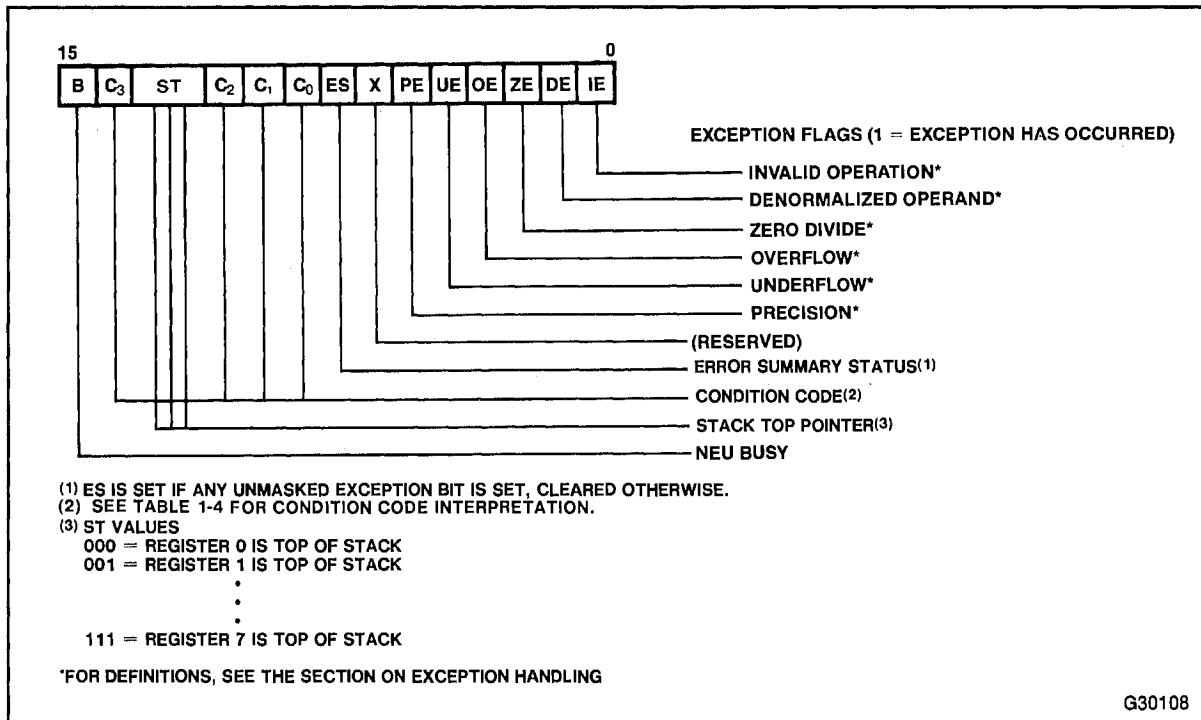

Figure 1-4. 80287 Status Word
The 16-bit status word shown in figure 1-4 reflects the overall state of the 80287. This status word may be stored into memory using the FSTSW/FNSTSW, FSTENV/FNSTENV, and FSPEC/FNSPEC instructions, and can be transferred into the 80286 AX register with the FSTSW AX/FNSTSW AX instructions, allowing the NPX status to be inspected by the CPU.
Figure 1-4 shows the six error flags in bits 0-5 of the status word. Bit 7 is the error summary status (ES) bit. ES is set if any unmasked exception bits are set, and is cleared otherwise. If this bit is set, the ERROR signal is asserted. Bits 0-5 indicate whether the NPX has detected one of six possible exception conditions since these status bits were last cleared or reset.